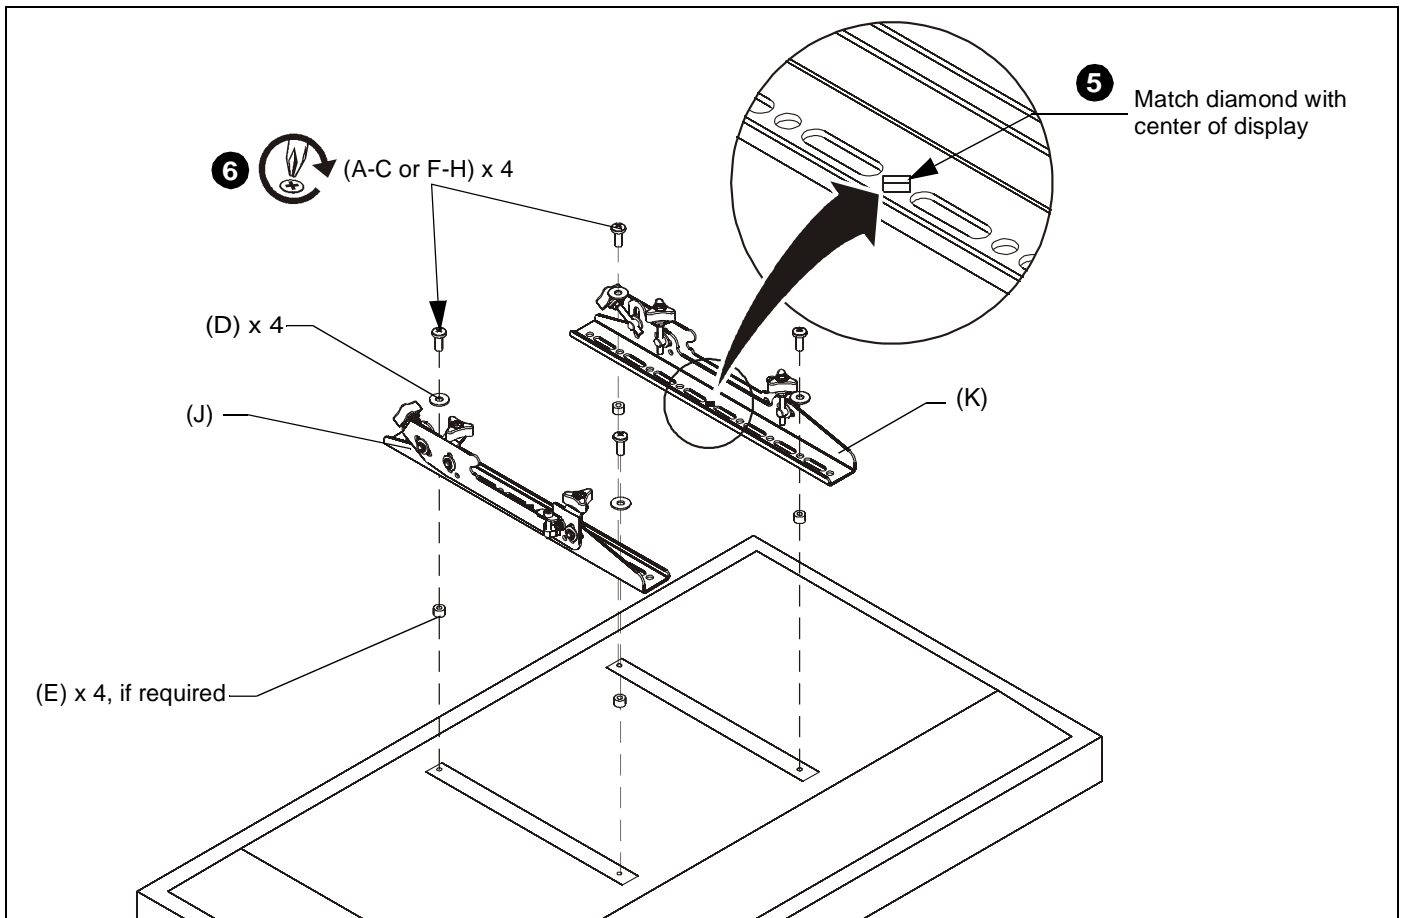

Figure 6
2. Select screw *diameter* by examining hardware (A-C and F-H) and comparing with mounting holes on display. (See Figure 6)
- Spacers (E) **ARE** required if mounting holes are recessed, or if protrusions prevent interface brackets (J and K) from laying flat.
4. Select screw *length*: (See Figure 6)
- By hand, insert **SHORTEST** length screw of selected diameter (A or F) through 1/4" washer (D), bracket (J or K), selected spacer (E, if required), into display mounting hole. Do **NOT** thread screw into hole at this time.
5. Align the center of the interface brackets (J and K) with center of screen. (See Figure 6)
6. Use selected screws (A-C or F-H), washers (D) and spacers (E), if necessary, to connect interface brackets (J and K) to back of display. (See Figure 6)